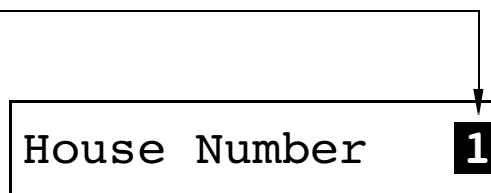

**Figure 3. Setup Screen.**
*Setup* screen for viewing appears (**Figure 3**).